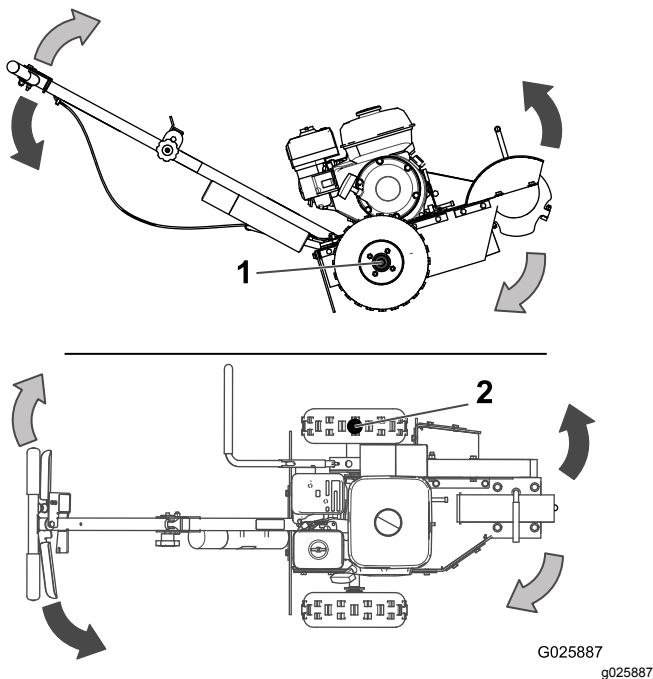

Figure 10
2. Push the handle down enough to raise the cutting wheel off the ground (Figure 10).
5. Swing the cutting wheel to one side (Figure 10), then lower it approximately 1 to 2.5 cm (1/2 to 1 inch) into the front-top corner of the stump.